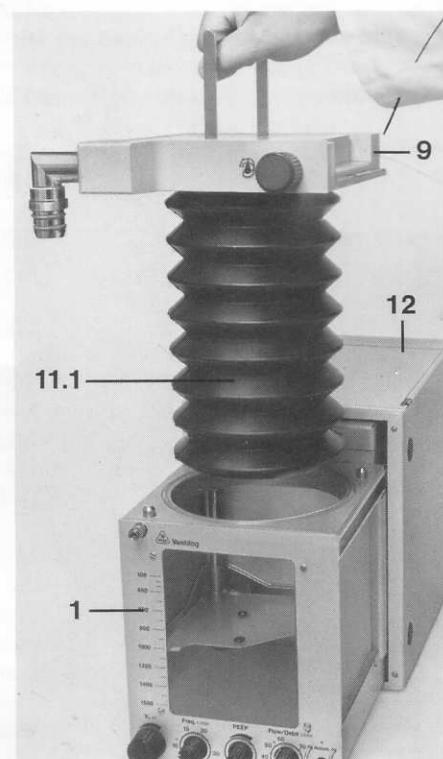

Fig. 3 Ventilog with bellows E
Figs. 3 and 4:
- 1) A slide-in unit 1 (Fig. 3)
- 2) A patient system 9 (Fig. 3)
- 3) Ventilog housing 12 (Fig. 3)